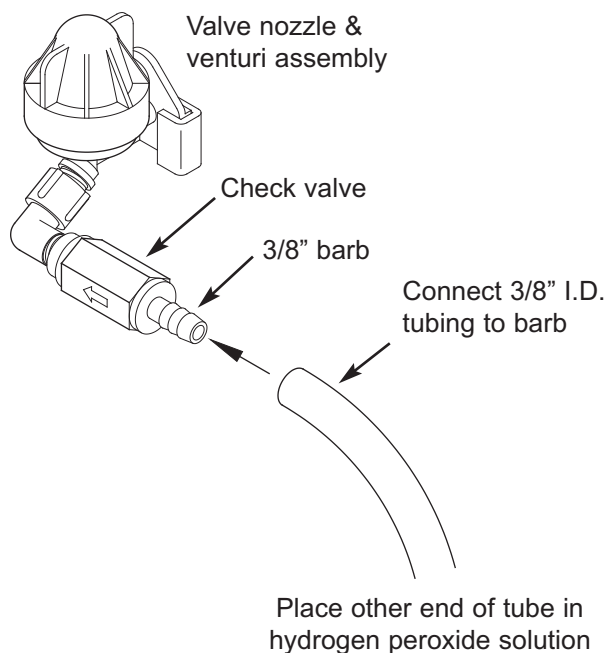

FIG. 12
3. Connect a length of 3/8 I.D. tubing to the barb on the aspirator check valve (See Figure 12).